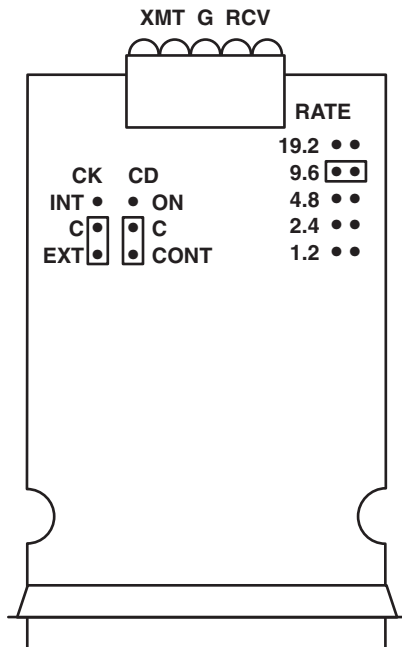

Figure 3-1. Location of Straps.
4. Strap the modem according to **Table 3-1** for data rate, internal or external clock, and carrier “on” or “controlled.” Refer to **Figure 3-1** for strap location.